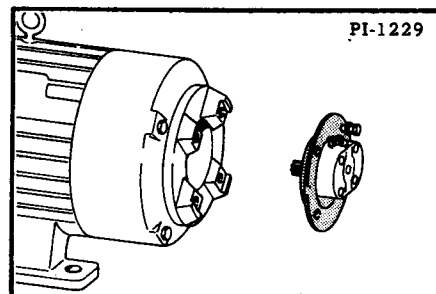

Fig. 154 Removing Pump from Motor
1. Remove the hydraulic pump and pump mounting plate from the motor bell housing (Figure 154).